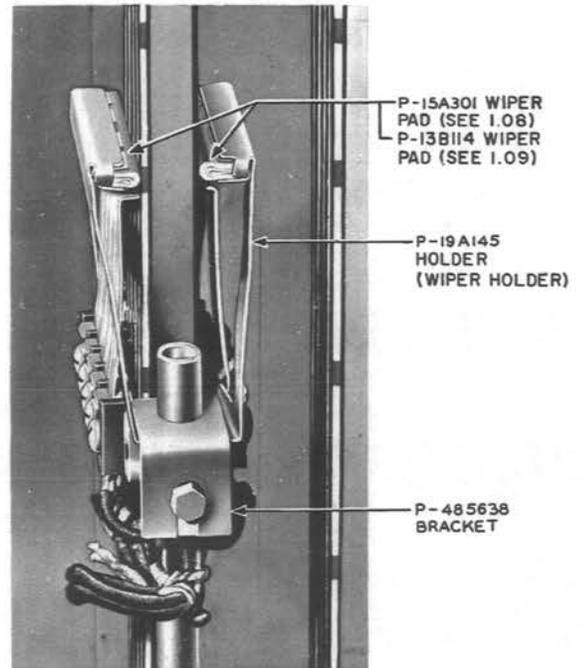

Fig. 5 - Commutator Wiper Parts
3.08 Insert a wiper pad at each side of the wiper holder as shown in Fig. 5. To do this, move one side of the holder away from the commutator with the KS-6320 orange stick just enough to permit insertion of the pad. Grasp one end of the pad with the fingers and carefully insert the pad into the holder from the front. Take care not to move the holder away from the commutator more than necessary, as this might reduce the tension of the holder. After working on the commutators, check the commutator brush requirements. It is also very important to check the requirements covering pressure of wiper pad against commutator and movement of ends of wiper holder. These requirements are covered in Section 026-120-701.